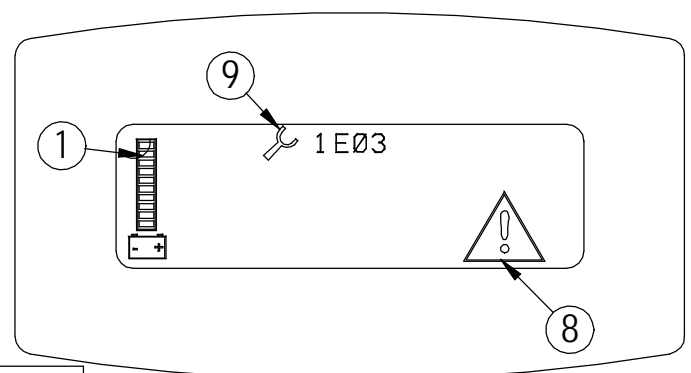

FIGURE 10.
8. ERROR WARNING SYMBOL - INDICATES WHEN THERE HAS BEEN A DIAGNOSTIC CODE ERROR. (SEE FIGURE 10.)
9. DIAGNOSTIC CODE - WHEN THE MACHINE HAS DETECTED AN ERROR IT WILL DISPLAY THE WARNING SYMBOL AND A DIAGNOSTIC CODE WHICH TELL YOU WHATS WRONG. (SEE FIGURE 10.)